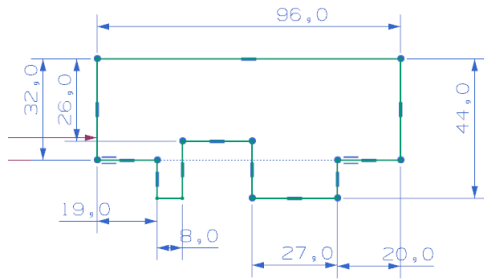

Figure 14-105 Sketch for the top face of the part
3. Draw the sketch for the base feature of the part, as shown in Figure 14-105.